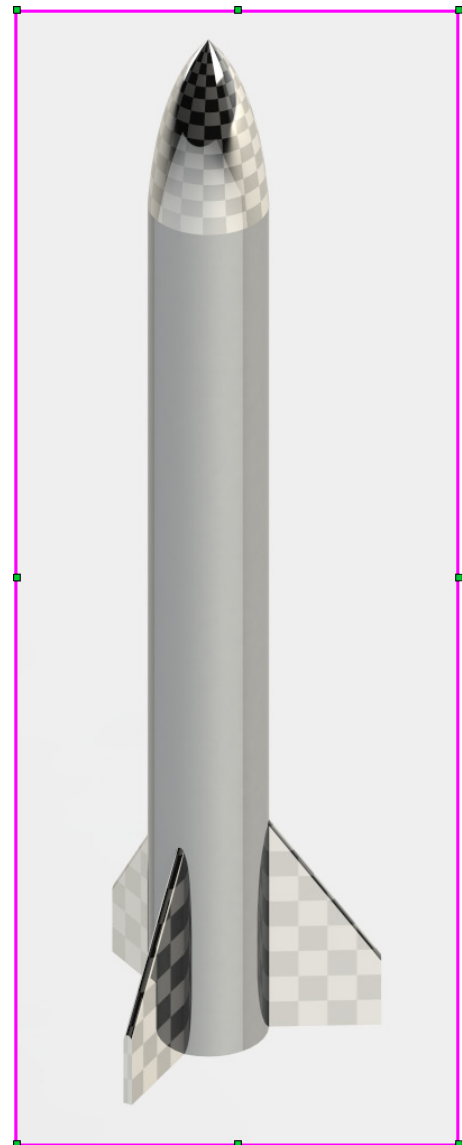

Fig. 13
- Step 3. Adjust the render region to fit around all, Fig. 13.